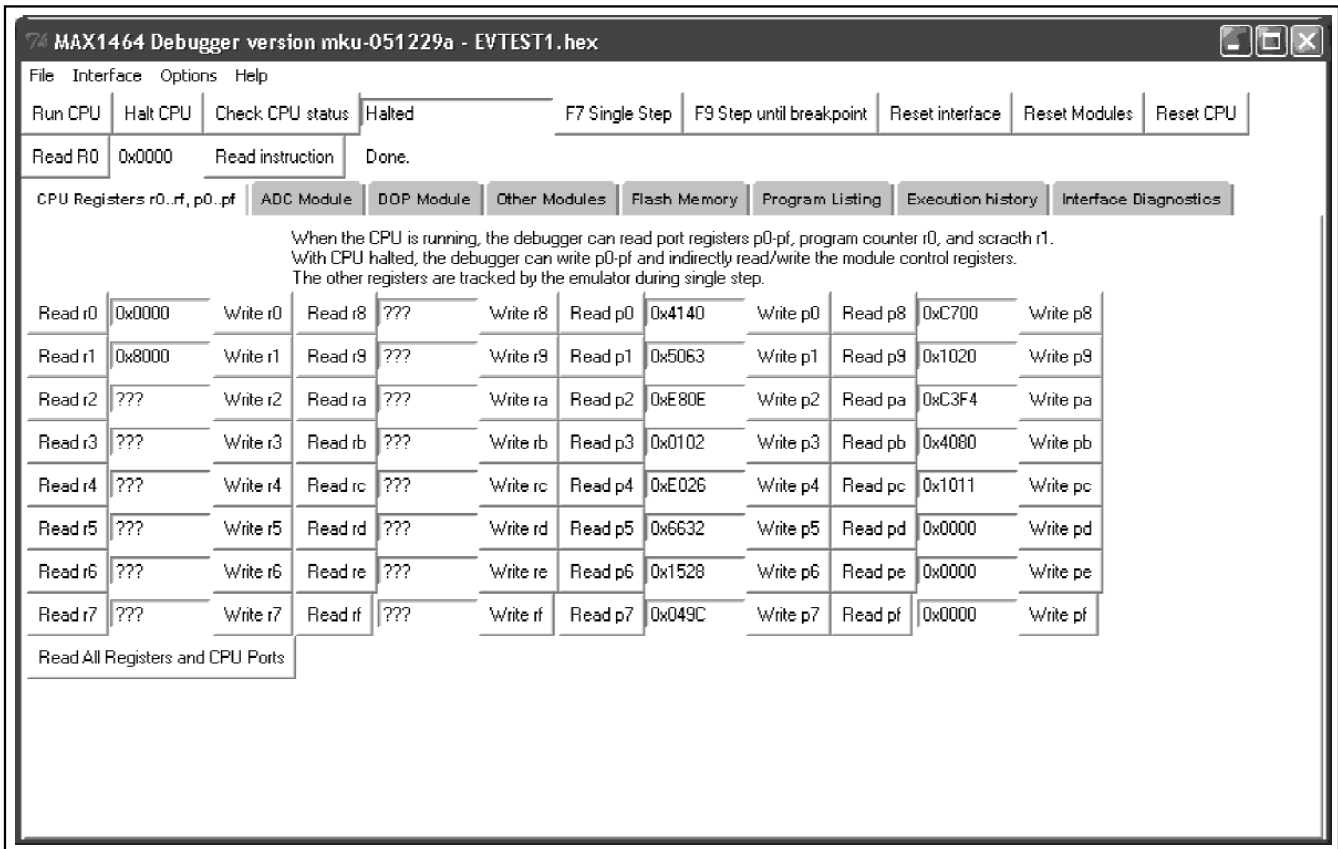

Figure 1. Hardware Debugger Window
- 2) A window (Figure 1) appears on the monitor.